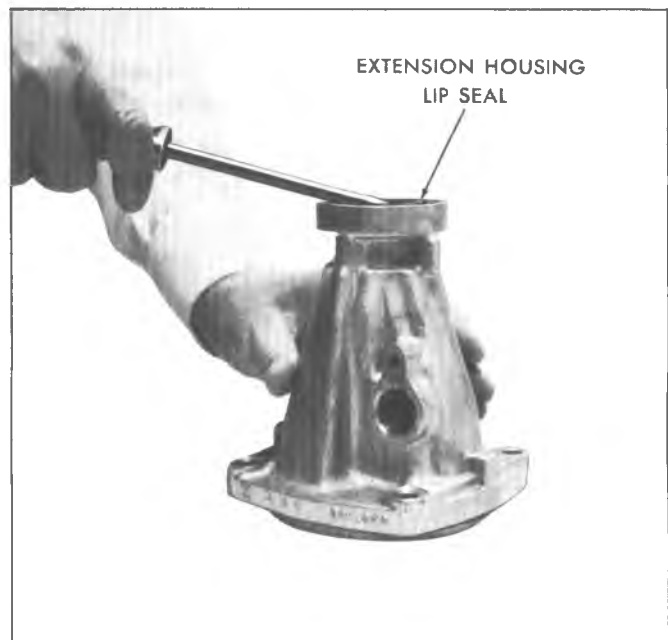

Fig. 4M--Removing Extension Housing Lip Seal
3. Remove extension housing lip seal using screw driver (fig. 4M).